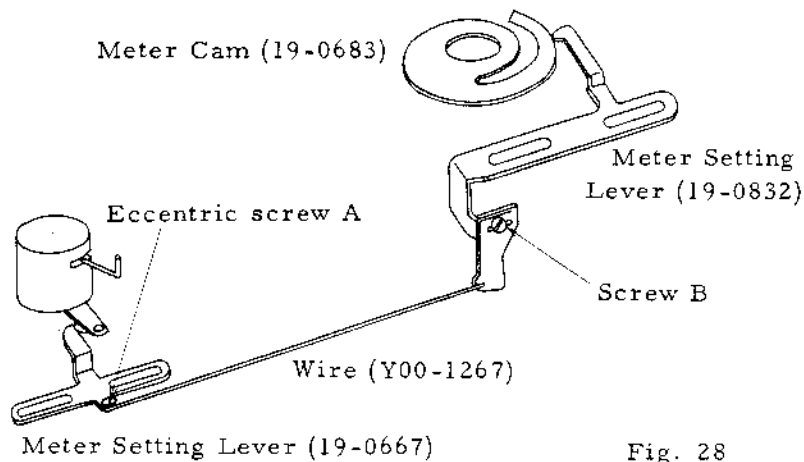
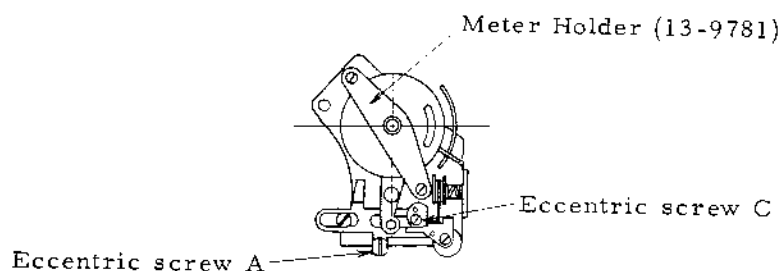

Fig. 28
Fig. 29
2) Set the eccentric screw A (Fig. 28) to its position.
3) At ASA 100 1/125 sec, the inscribed line of Meter Holder (13-9781) coincides with that of Meter Cover. In this case, the lever of Meter becomes perpendicular. See Fig. 29. Make adjustment by turing the screw B. See Fig. 28.
- 2) The Meter needle must align at the center of the Following Needle at the specified brightness. See Fig. 30. Make adjustment with the eccentric screw A (Fig. 29).
Adjust it with eccentric screw C (Fig. 29).